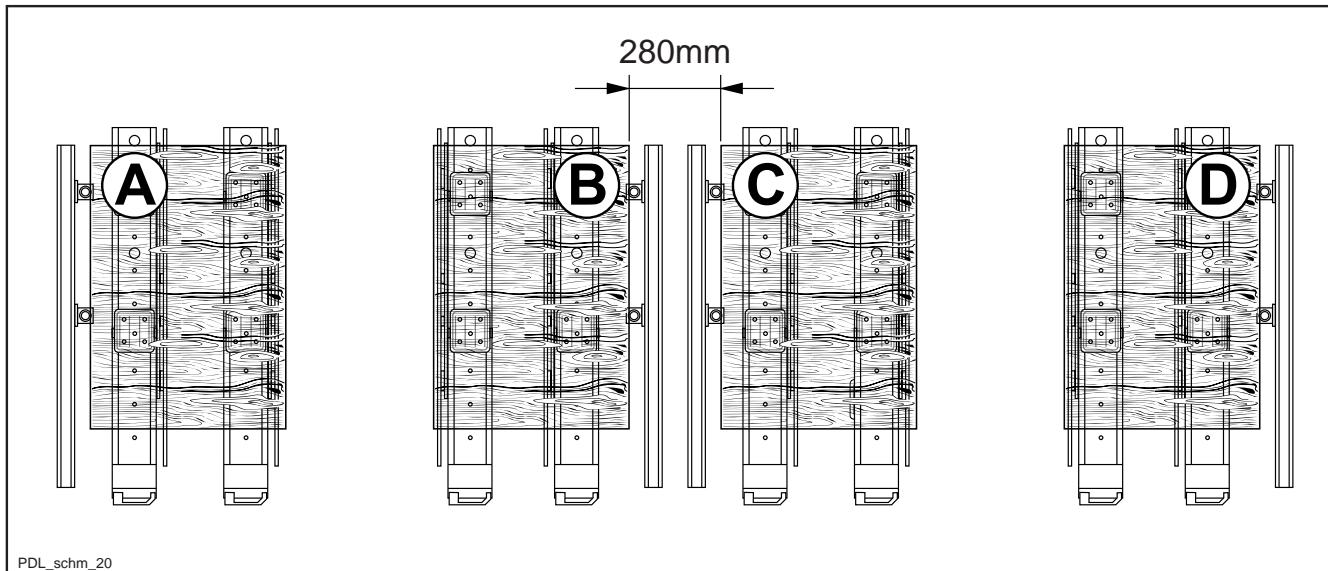

Fig. 3.8g
3) spaced double zero central reference so as to work on fields B (face 2) - C (face 3) with horizontal heads (fig. 3.8g)